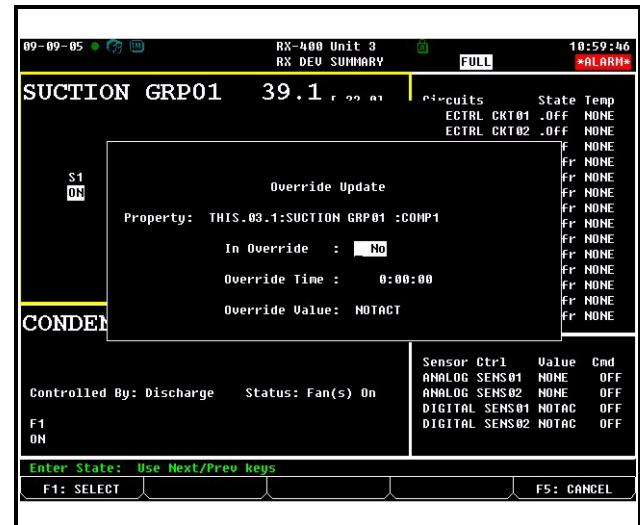

Figure 12-16 - Override Update Screen (RX Version Shown)
- The Override Update screen appears (see **Figure 12-16**). Press the **Prev** or **Next** to enter **Yes** to place the stage in override. Scroll down one space to enter the **Override Time**.